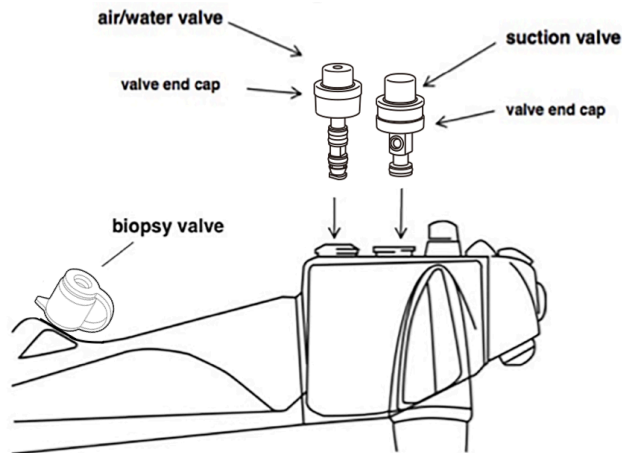

Figure 1
5. Insert the suction valve into suction cylinder of a Pentax® endoscope (see Figure 1 below).
10. Insert the air/water valve into the air/water cylinder of a Pentax® endoscope (see Figure 1 below).
14. Securely place the biopsy valve onto the biopsy/suction channel opening of a Pentax® endoscope (See Figure 1).